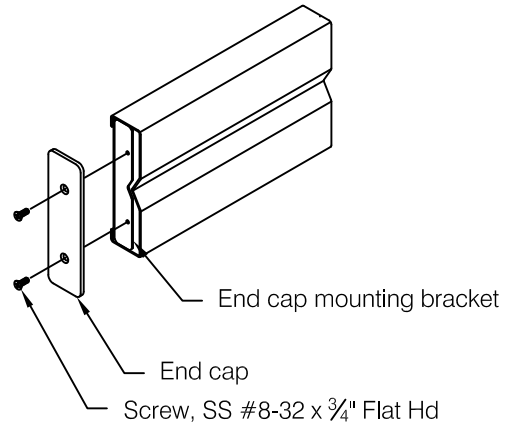

fig 2
Step 2: Install end caps at crash rail ends that have a factory welded end cap mounting plate. Install with two #8-32 x 3/4" flat head machine screws (supplied), see **fig 2**